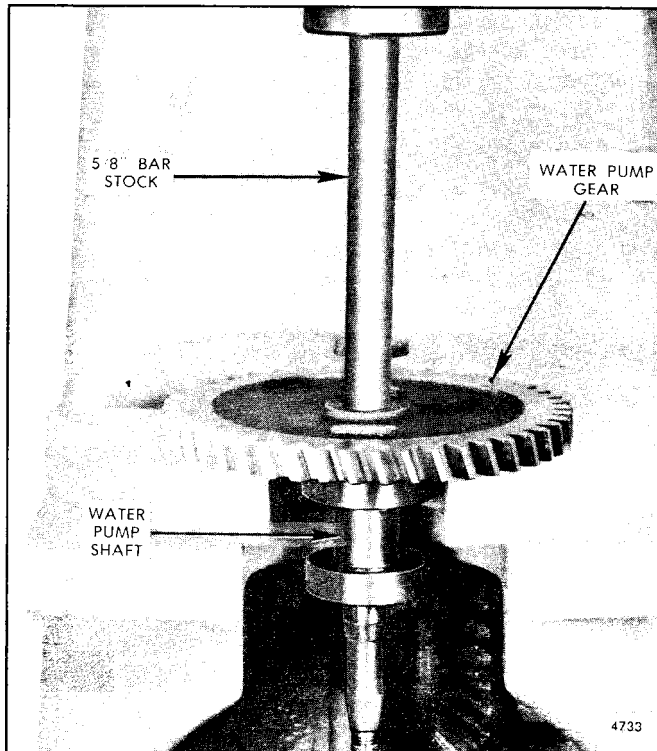

Fig. 5 - Pressing Shaft Out of Gear
7. Place the gear on the bed of an arbor press with the shaft extending downward. Then, place a short piece of .6250" diameter bar stock between the shaft and the ram of the press and press the shaft out of the gear as shown in Fig. 5.